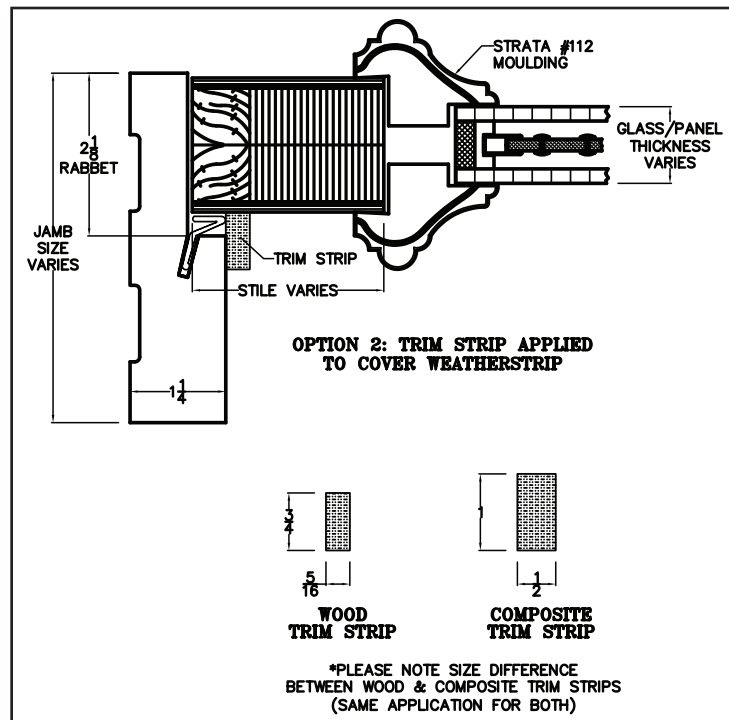

Fig. 16.1
- C1. For Custom Fiberglass Doors Only:** Insert weatherstrip in the kerfed area around the sidelight of the jamb. Once the door is completely installed, the finished trim strip may be applied with a 1½" 6d finish nail. (See **Fig. 16.1** for details).